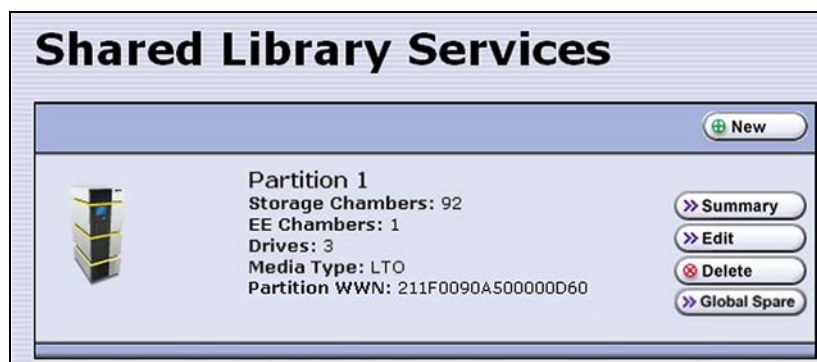

Figure 108 Click **New** on the Shared Library Services screen to begin creating the storage partition.
3. Select **Automatically create a partition** from the initial Shared Library Services screen (see Figure 108 on page 190) and click **New**.